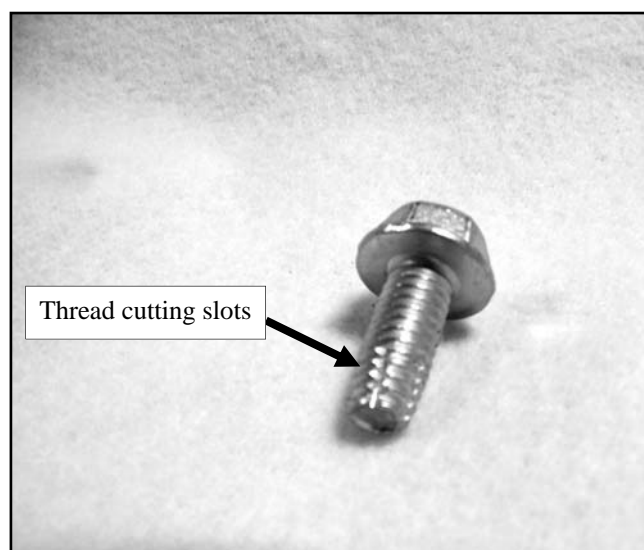

Fig. 10.2a (Thread cutting bolt)
10.2 See fig. 10.2a and 10.2b. Using the supplied thread cutting bolts, carefully attach the door filler panel to the vehicle. Ensure the thread cutting bolts start going in straight and apply pressure as they are turned. As the bolts start cutting thread, there will be more resistance, and then they will turn more freely once the threads have been cut. Gently tighten them, being careful not to strip the newly cut threads.